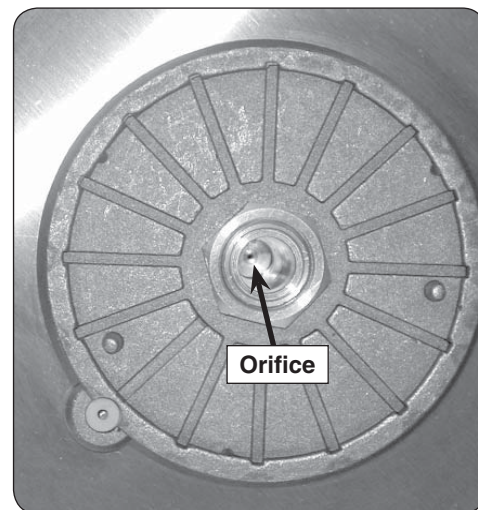

Fig. 23-1 Burner - top view
3. Using a $\frac{3}{8}$ " socket, remove the orifice (see Fig. 23-1) and check the number stamped on the orifice face.